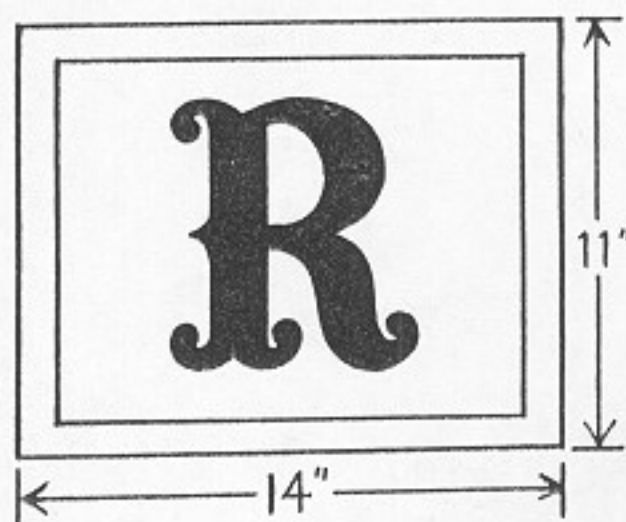

Fig. 133. Block "R"
1. Assume that an "R" is to be reproduced on an 11" x 14" card in one color. The poster is to have a line border as shown in Fig. 133.